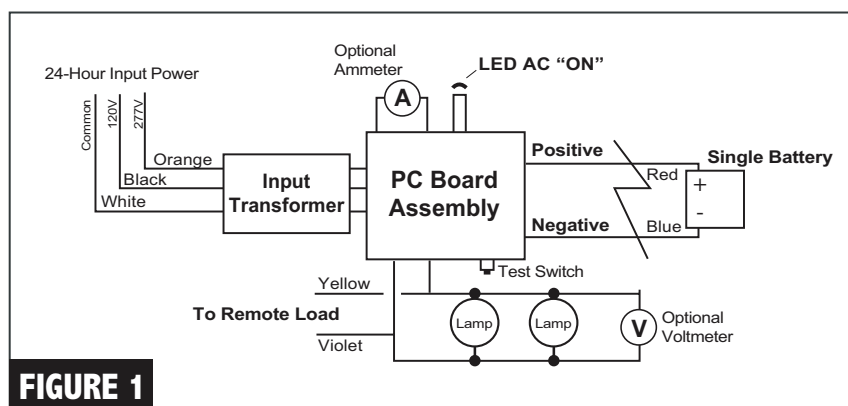

FIGURE 1
2. Extend 24-hour AC supply of rated voltage to the equipment, which is furnished with a dual voltage 120V/277V field selectable input (see Figure 1 on page 2). Connect unit to utility power using an approved seal tight connector or NEMA4X connector. The unit should be DRILLED for the connector in the proper location as it relates to the location of the entry point of the power feed coming into the unit. There are various places inside the unit that are suitable for this incoming power location. For 120V supply, connect the line wire to the black lead for 277V supply, connect the line wire to the orange lead. Connect neutral wire to the white lead. Connect the ground wire in accordance with local codes. A green ground lead is provided. **DO NOT** energize circuit at this time.